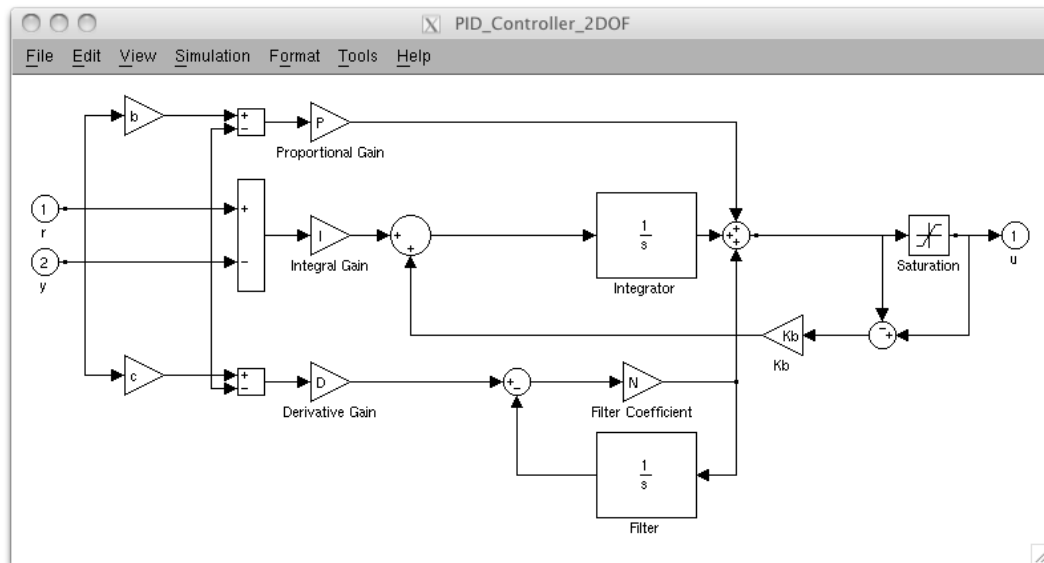

Figure 1 2-DOF PID controller in Simulink.
3. The block diagram in Figure 1 shows how the PID Controller (2DOF) block in MATLAB/Simulink is implemented internally.